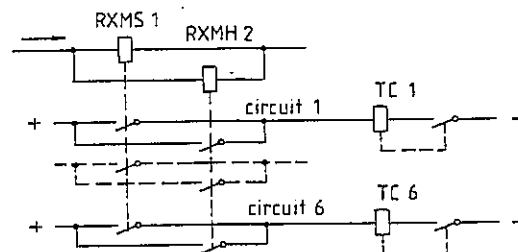

Fig. 5 Typical trip relay unit (TU) with high speed (3.5 ms) contacts and parallel connected reinforcing contacts. For 6 individual trip coil circuits.
A typical high speed (3.5 ms) tripping unit (TU) is shown in fig. 5. This takes care of 6 individual trip coil circuits, i.e. six lines when all the three phases of each line are energized by one contact.
Similarly, if only one trip relay contact is required to trip each line, the double bus arrangement may be as in fig. 5. The selector switch (or mirror relay) aux. contacts: 1 and :2 are then used to obtain selective tripping of only the faulty bus.